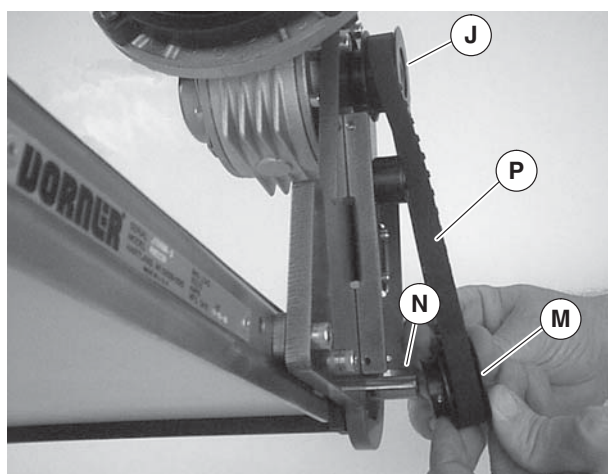

Figure 15
7. Install key (Figure 15, item N).